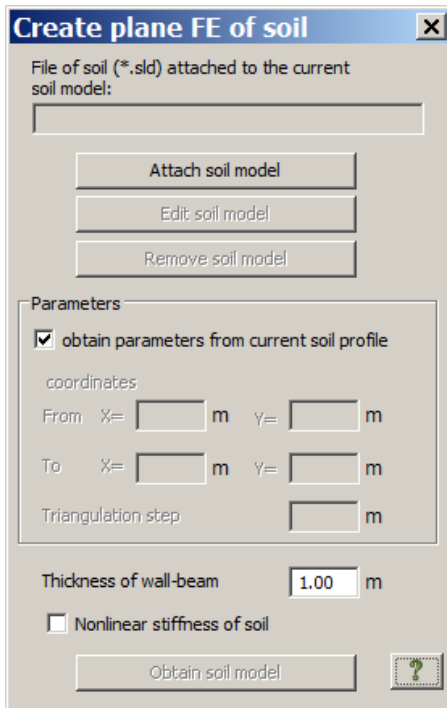

Figure 17.3. **Create plane FE of soil** dialog box
- ⇒ In the **Create plane FE of soil** dialog box (see Fig. 17.3), click **Attach soil model**.